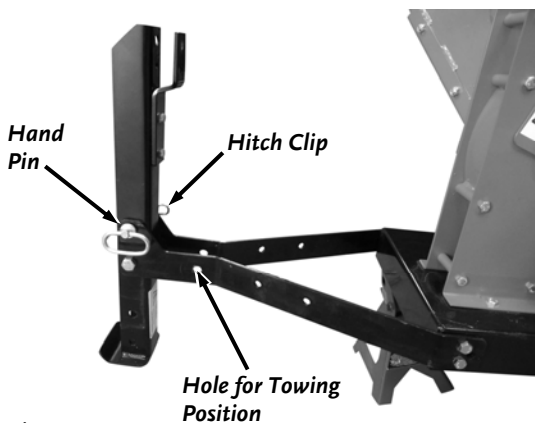

Figure 47
6. Position the Tow Beam/Stand so it is vertical and install the Hand Pin and Hitch Clip to secure it in the upright position (**Figure 47**). This is the operating Position when the machine is off the tow vehicle.